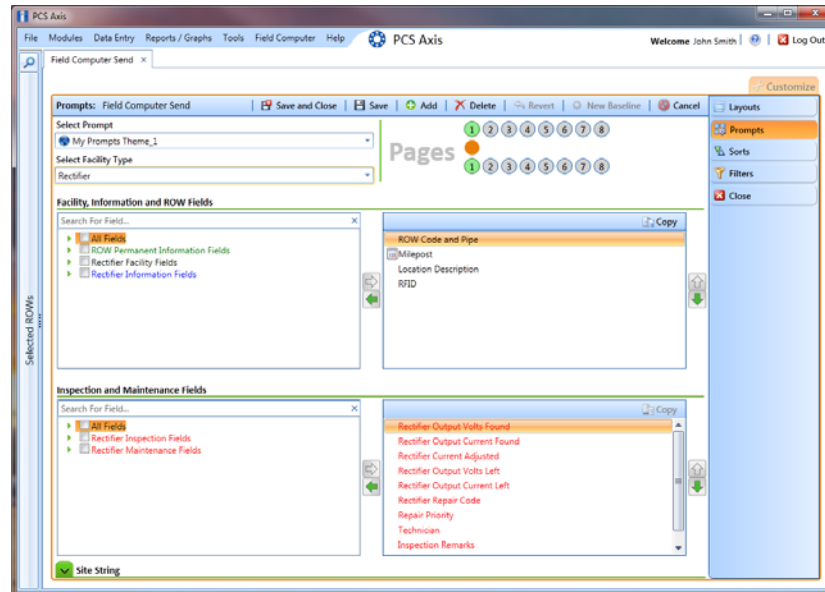

Figure 12-30. Prompts
- 8 Verify the name of the new theme displays in the **Select Prompt** field. If not, click the down arrow and select the theme in the selection list (Figure 12-30, page 505).